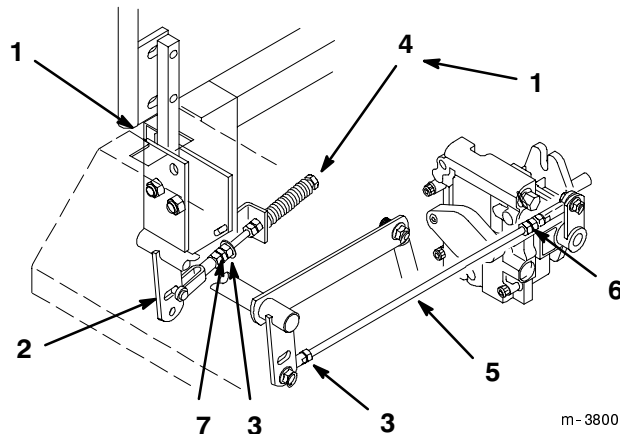

Figure 54
2. Begin with either the left or right motion control lever. Move lever to the neutral (but not locked) position and pull lever back until the clevis pin (on arm below pivot shaft) contacts the end of the slot (just beginning to put pressure on spring) (Fig. 54).
3. Check where lever is relative to notch in console (should be centered allowing lever to pivot outward to the neutral lock position) (Fig. 54).
4. Loosen locknut at ball joint on pump control rod (Fig. 54).
6. Adjust pump rod length by rotating double nuts on rod, in the appropriate direction, until wheel is still or slightly creeps in reverse (Fig. 54).